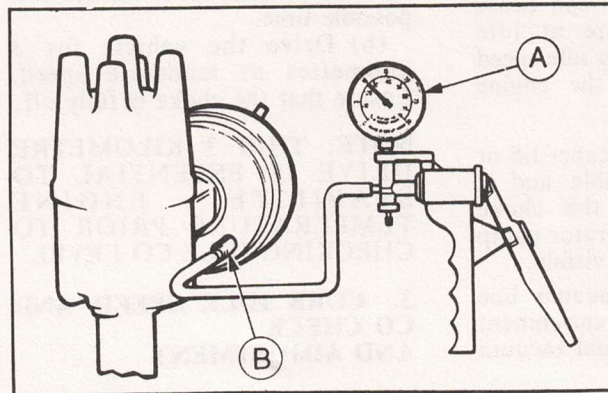

Fig. 37. — Checking vacuum retardation (Surrounding components omitted for clarity)
2. Connect the valve into the test circuit illustrated, with the black side of the valve towards the vacuum source and the coloured side towards the vacuum gauge. (see Fig. 37).